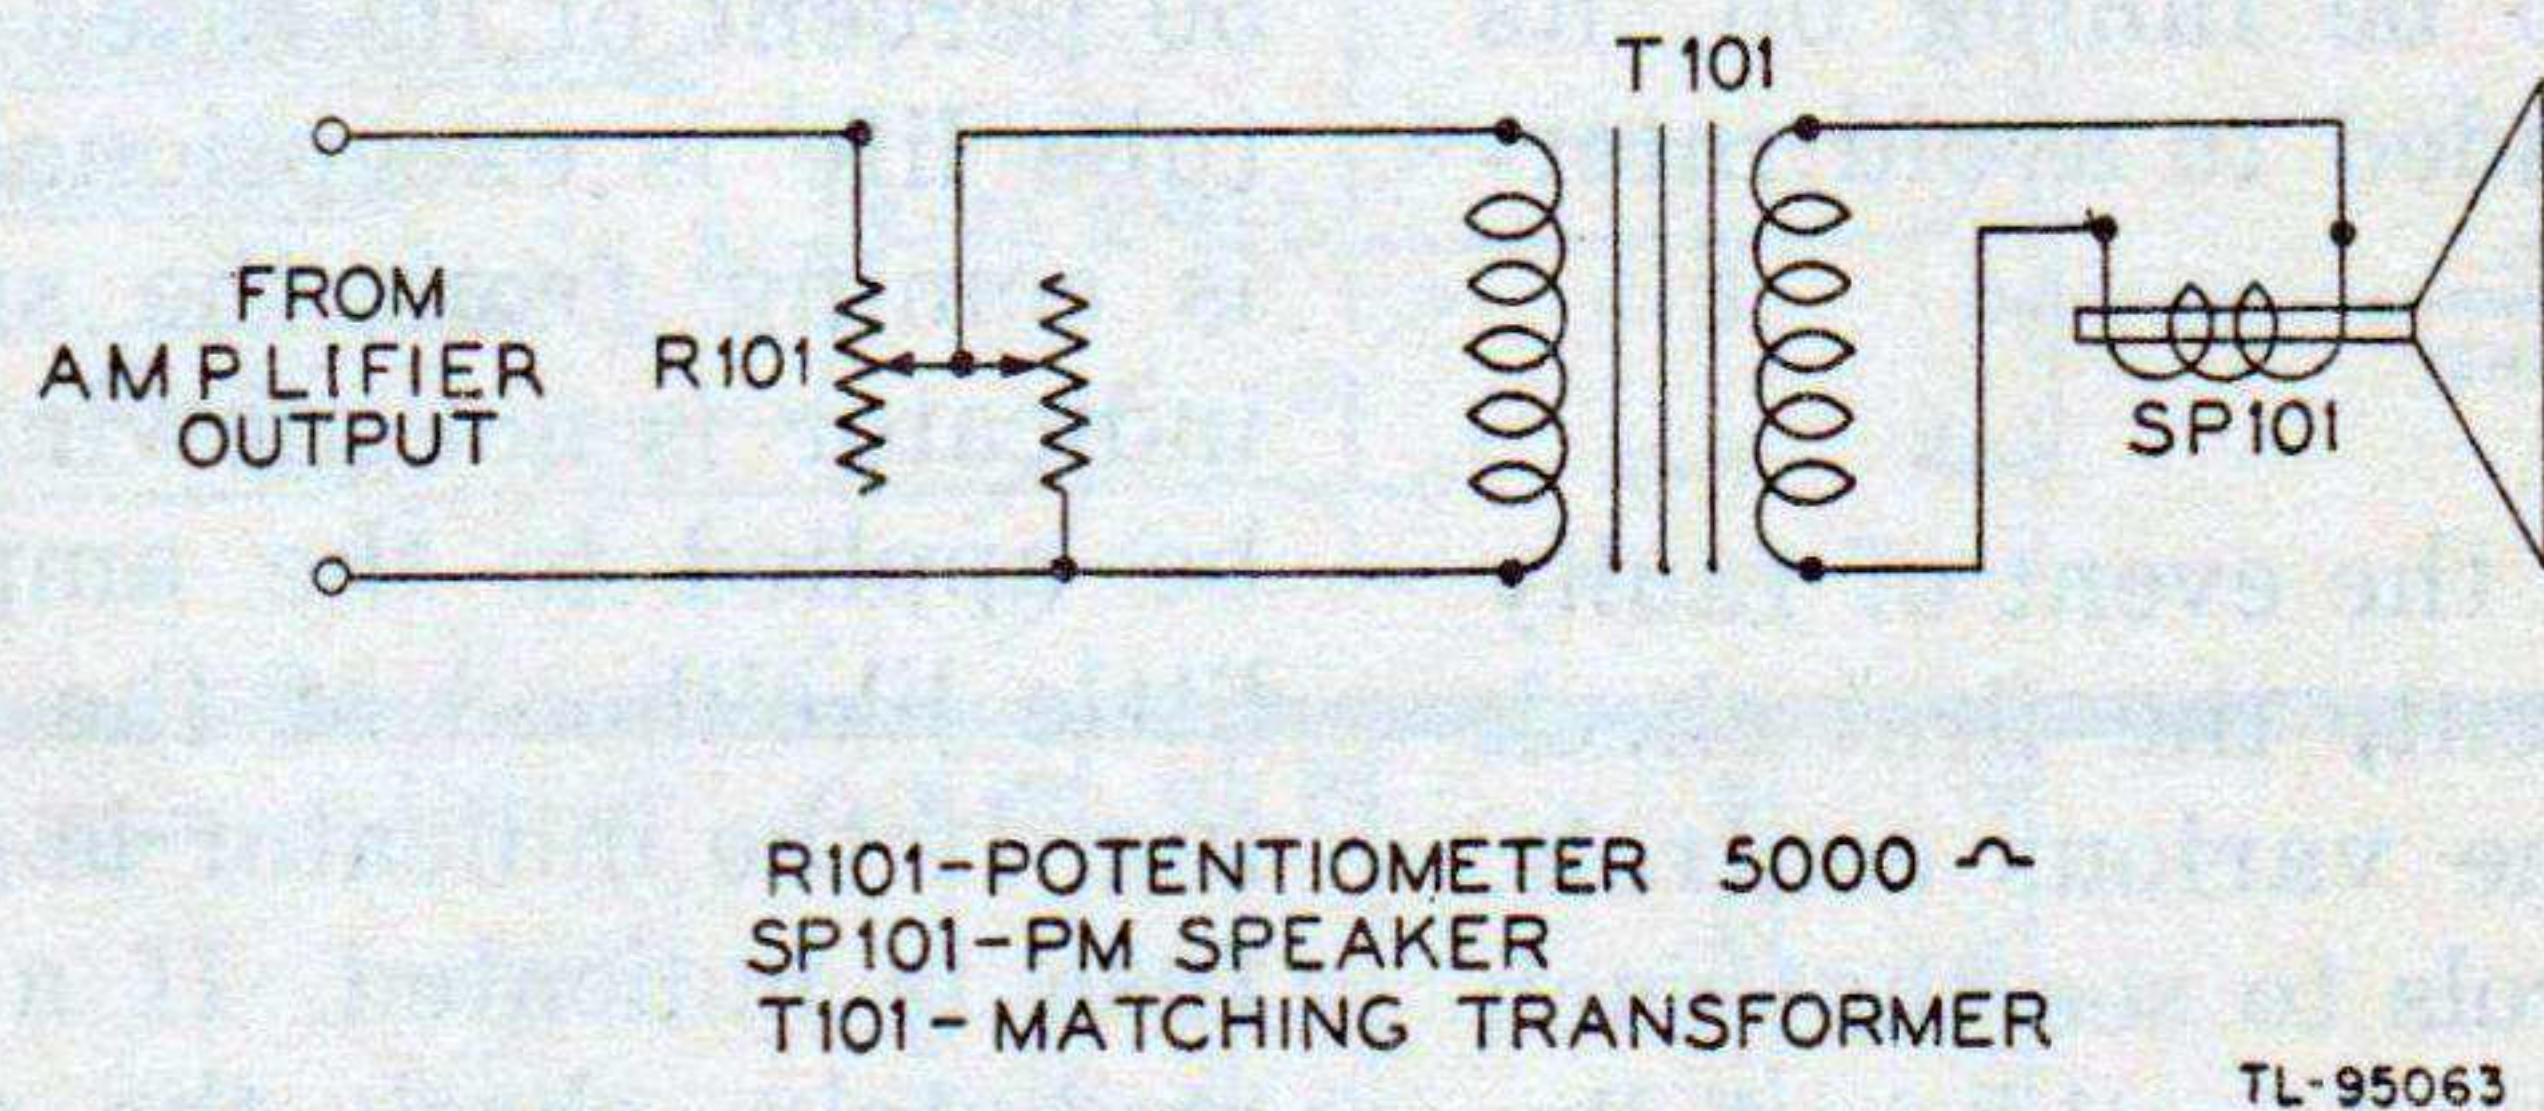

Figure 13. Loudspeaker, schematic diagram.
9. THE LOUD SPEAKER (fig. 13).